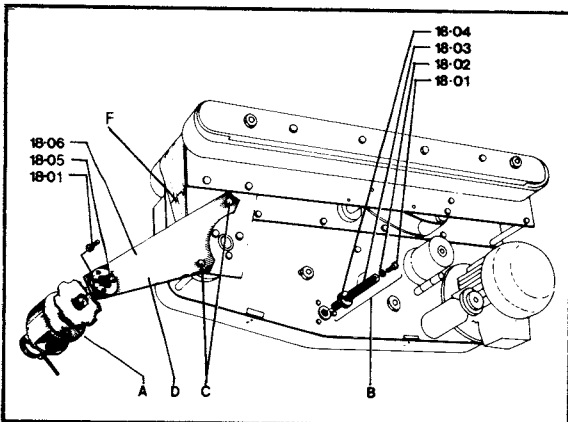

Figure 1 - Auxiliary Tape Roll Mount Installation - Left Side View.
Installation Instructions - Refer to Figures 1 and 2.
1. Remove and retain the tape drum assembly (A) from the bottom taping head.
2. Install and secure the guide roller assembly (B) in the tape drum assembly location.
3. Remove and retain the two hex head screws (C) from bottom taping head.
4. For 7A Model 176 and 7R Model 176 Case Sealers, install the tape drum bracket (D) to the bottom taping head as shown in figure 1 and secure with the two screws (C).